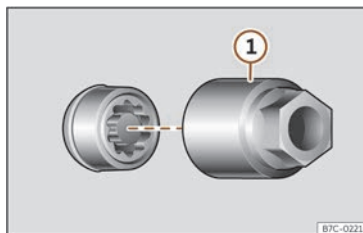

Fig. 208 Anti-theft wheel bolt with cap and adapter.
- Insert the special adapter >>> **Fig. 208 ①** (vehicle tools >>> page 271) onto the anti-theft wheel bolt and push it on as far as it will go.